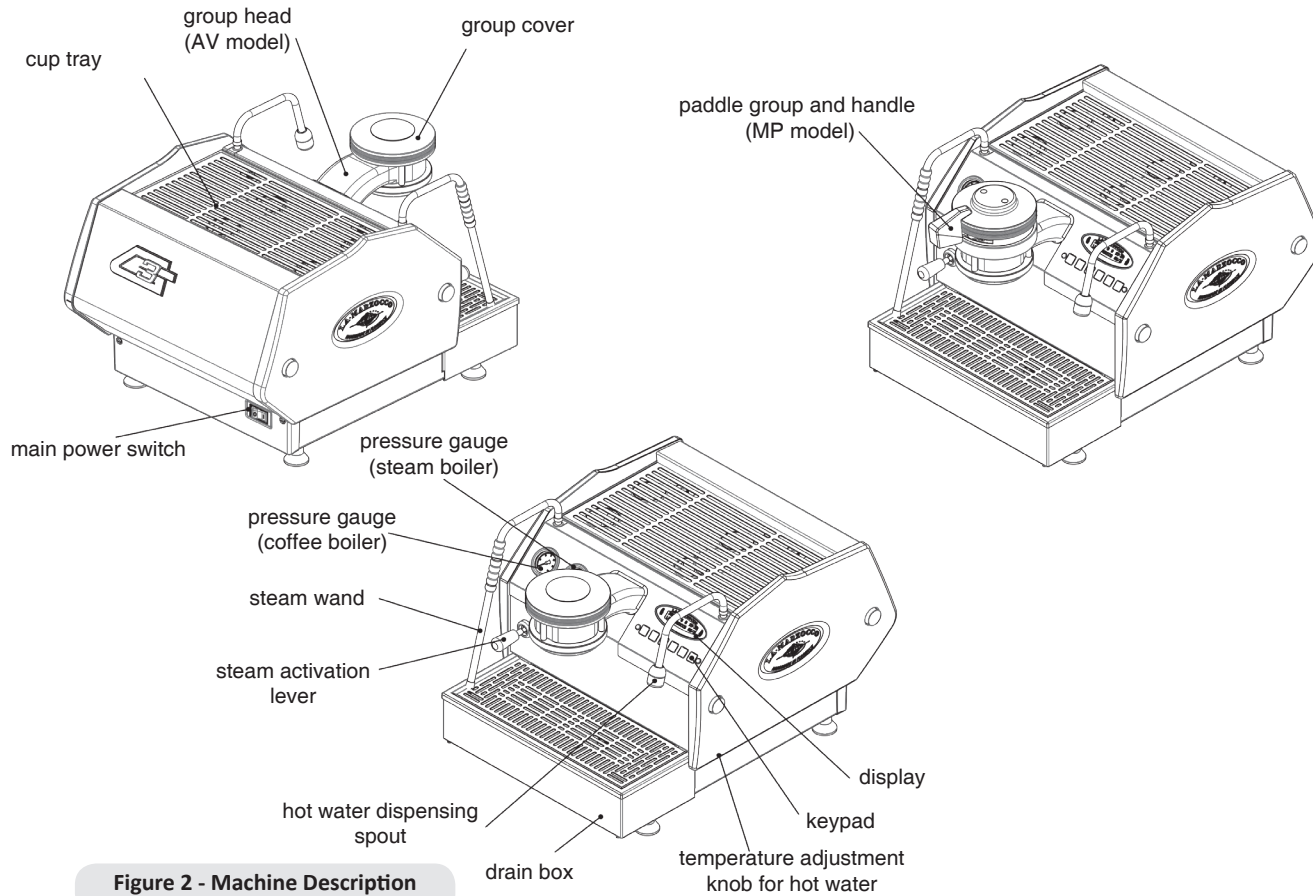

Figure 2 - Machine Description
2. Brewing Coffee. It is now possible to remove the portafilter to make a coffee beverage. Place some ground coffee in the portafilter basket using the single or double basket. Press down on the ground coffee with the supplied tamper and install the portafilter on the GS/3. On AV model press a brew button to begin the brewing process, or move the paddle handle from right to left to begin brewing on MP model (see Fig.2).
This button commands the hot water delivery. The volume of water delivered may be adjusted via the display (see the Software Programming Manual for further instructions). The temperature of the water dispensed may be adjusted by adjusting the mixing valve under the right side cover of the espresso machine (see machine description diagram, Figure 2, and the instructions on the next page).